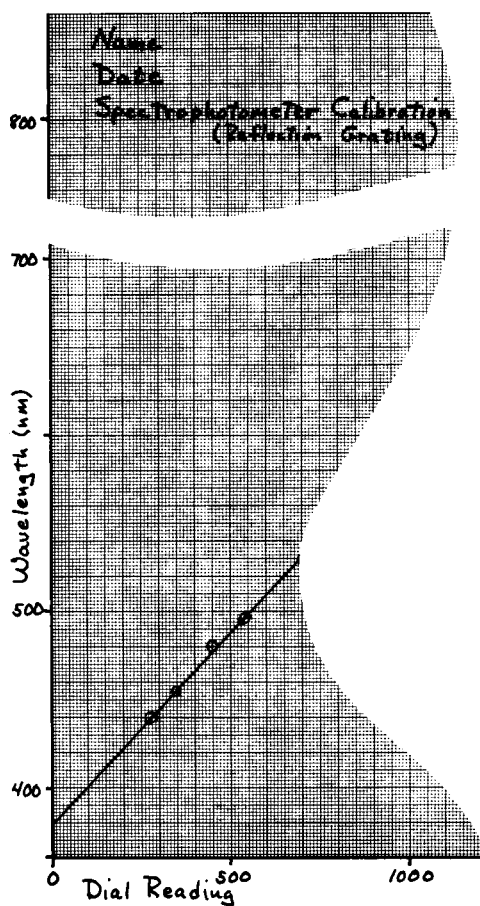

Figure 65.
1. Label a piece of graph paper with Dial Readings on the horizontal axis and Wavelength in nanometers on the vertical axis. See Figure 65.